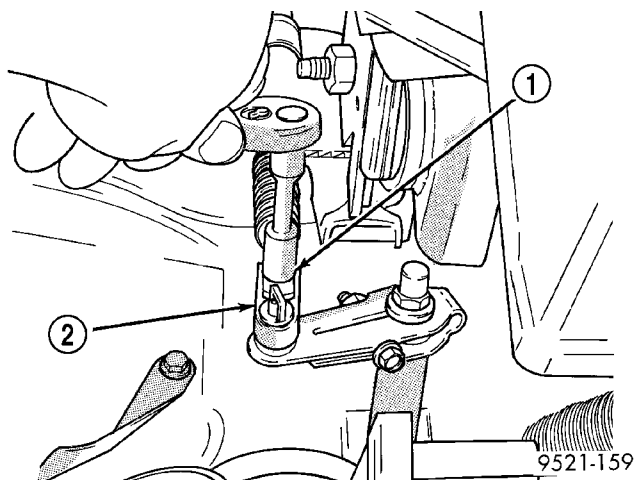

Fig. 219 Gearshift Cable Adjustment
- (1) Park the vehicle on level ground and set the parking brake.
- (2) Place the gearshift lever in gated park (P) and remove ignition key.
- (3) Loosen the cable adjustment screw at the transaxle manual valve lever (Fig. 219).
- (4) Pull the gearshift lever fully forward to the park detent position.
- (5) Release the park brake, then rock the vehicle to assure it is in park. Reset the park brake.